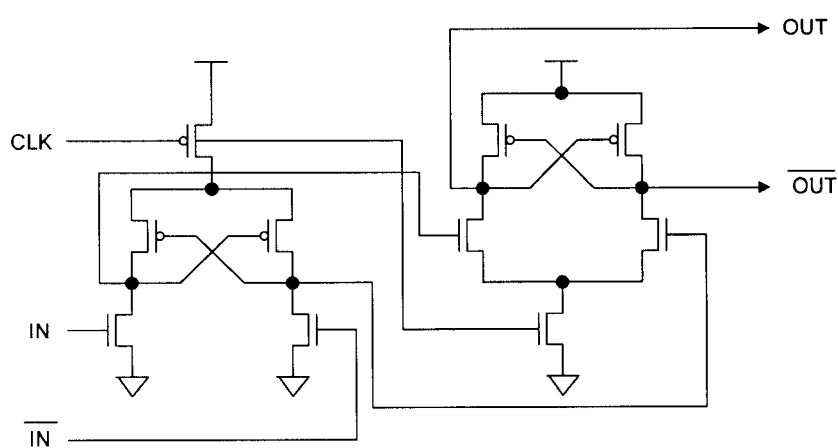

Figure 2
2. a) Figure 2 shows a dynamic differential flip-flop circuit. Explain how this circuit works.